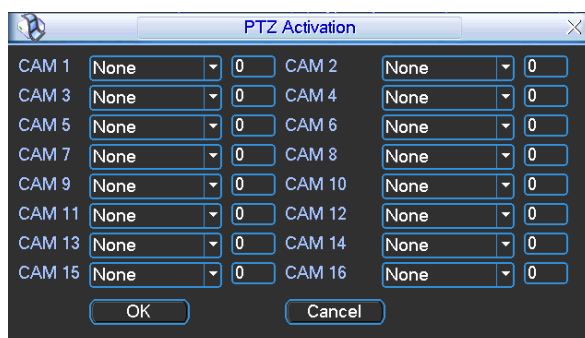

Figure 4-27
- PTZ activation: Here you can set PTZ movement when alarm occurs. Such as go to preset, tour& pattern when there is an alarm. Click "select" button, you can see an interface is shown as in Figure 4-27.